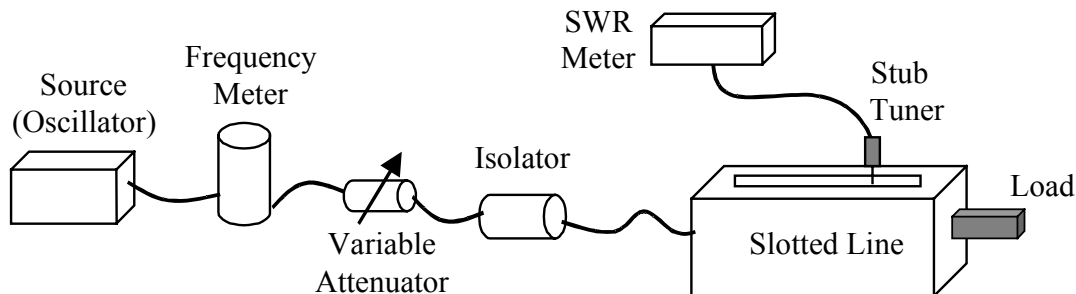

Figure 1: X-band waveguide slotted line measurements for VSWRs of shorting plate and inductive iris.
The experimental setups are shown in the Figure 1.
- a. Ensure setup is as shown in Figure 1. Place a wedge (50 ohm) termination onto the end of the slotted line. Set signal generator to 8.5 GHz, CW.
- a. Ensure setup is as shown in Figure 1. Place a wedge (50ohm) termination onto the end of the slotted line. Set signal generator to 10 GHz, CW.